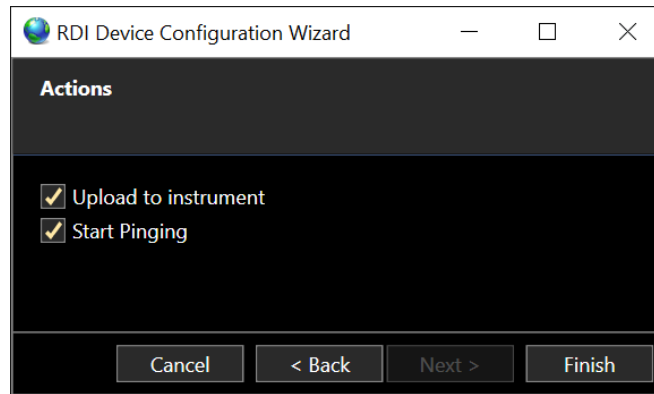

FIGURE 18-11 RDI DEVICE CONFIGURATION - ACTIONS PAGE
- V. The Actions page has the following two options (see Figure 18-11).